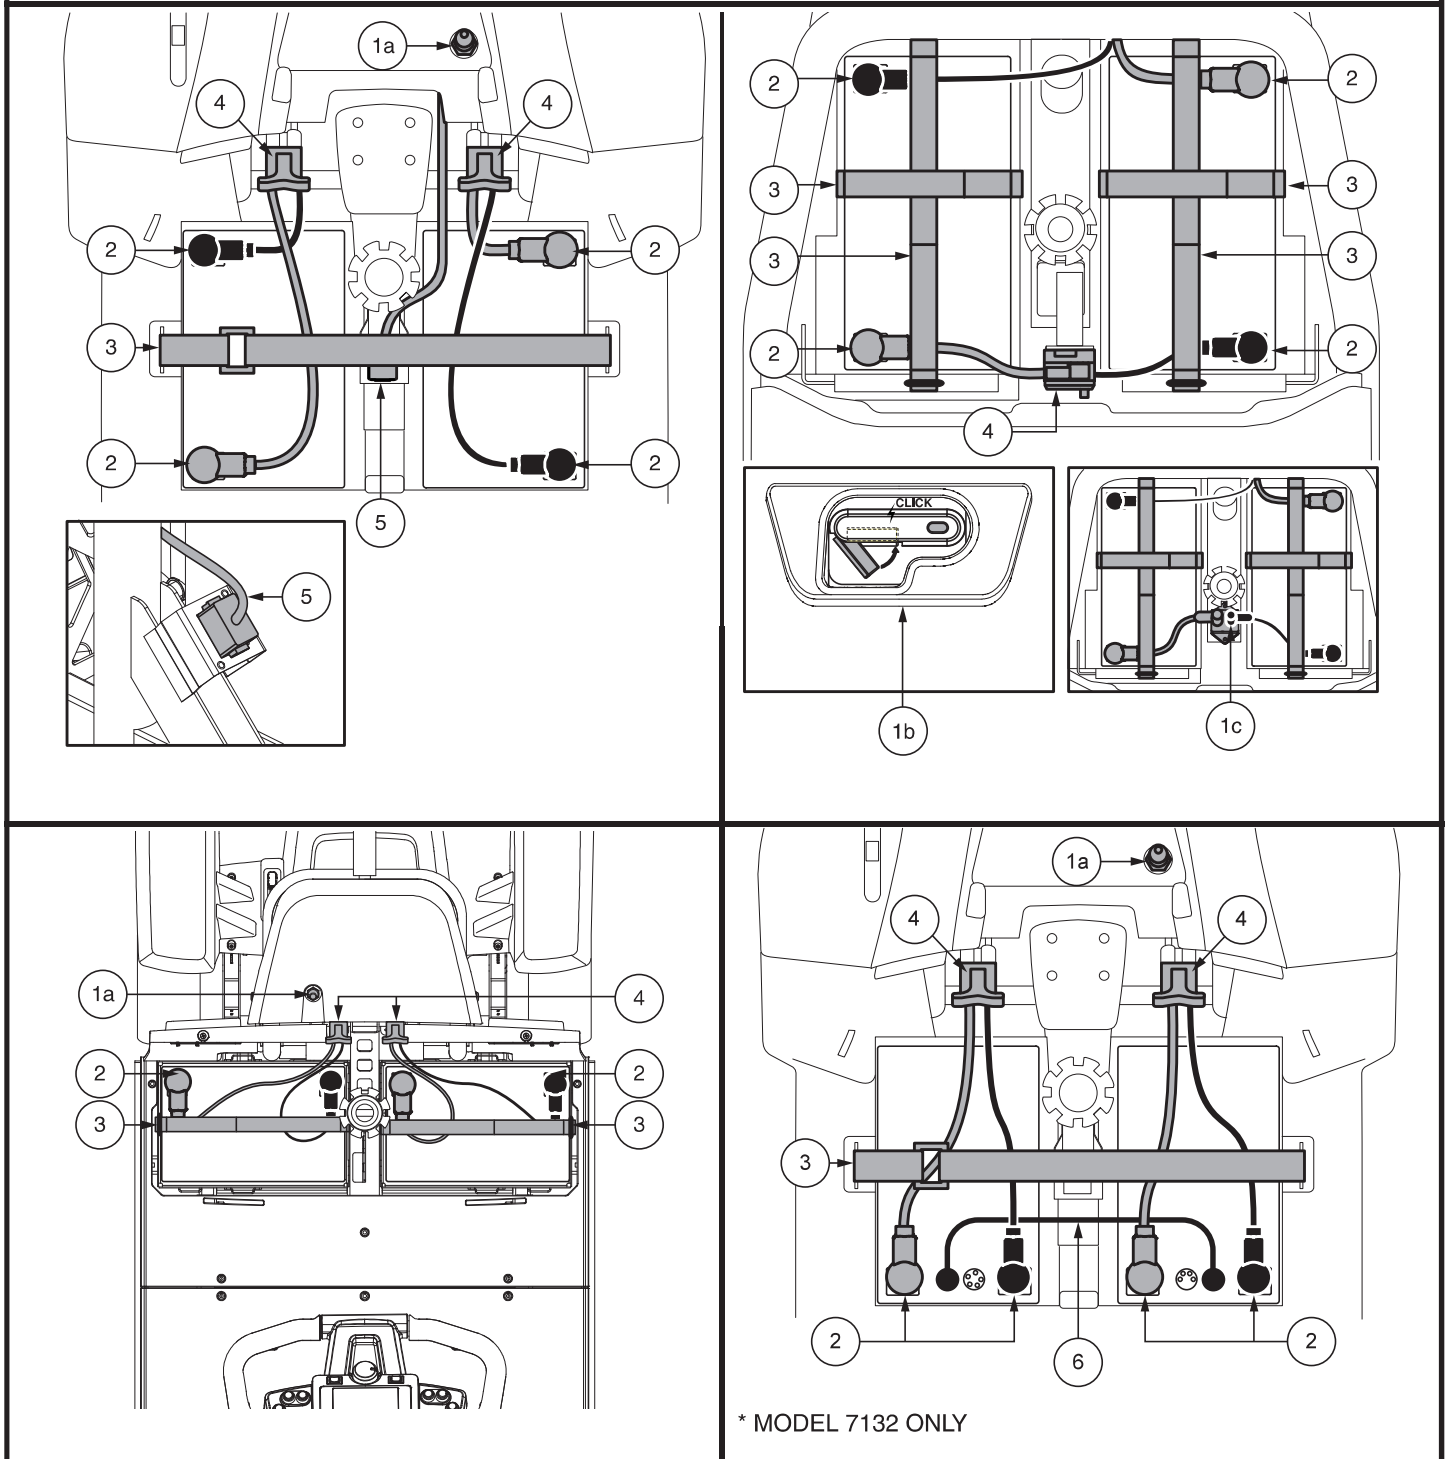

Figure 17. Battery Removal/Installation Terminals and Connections
3. For all models EXCEPT 614 and 714, disconnect the front-to-rear harness. Unplug both battery harnesses by pulling each harness out of its mating plug. **See figure 17.**
6. Place a new battery in each battery well. Face the battery terminals of each battery away from the seat post with the positive (+) and negative (-) battery terminals positioned as shown in **figure 17.**
NOTE: Models 614 and 714 use battery straps to secure batteries in the battery wells. Please refer to figure 17 for battery strap installing procedures.